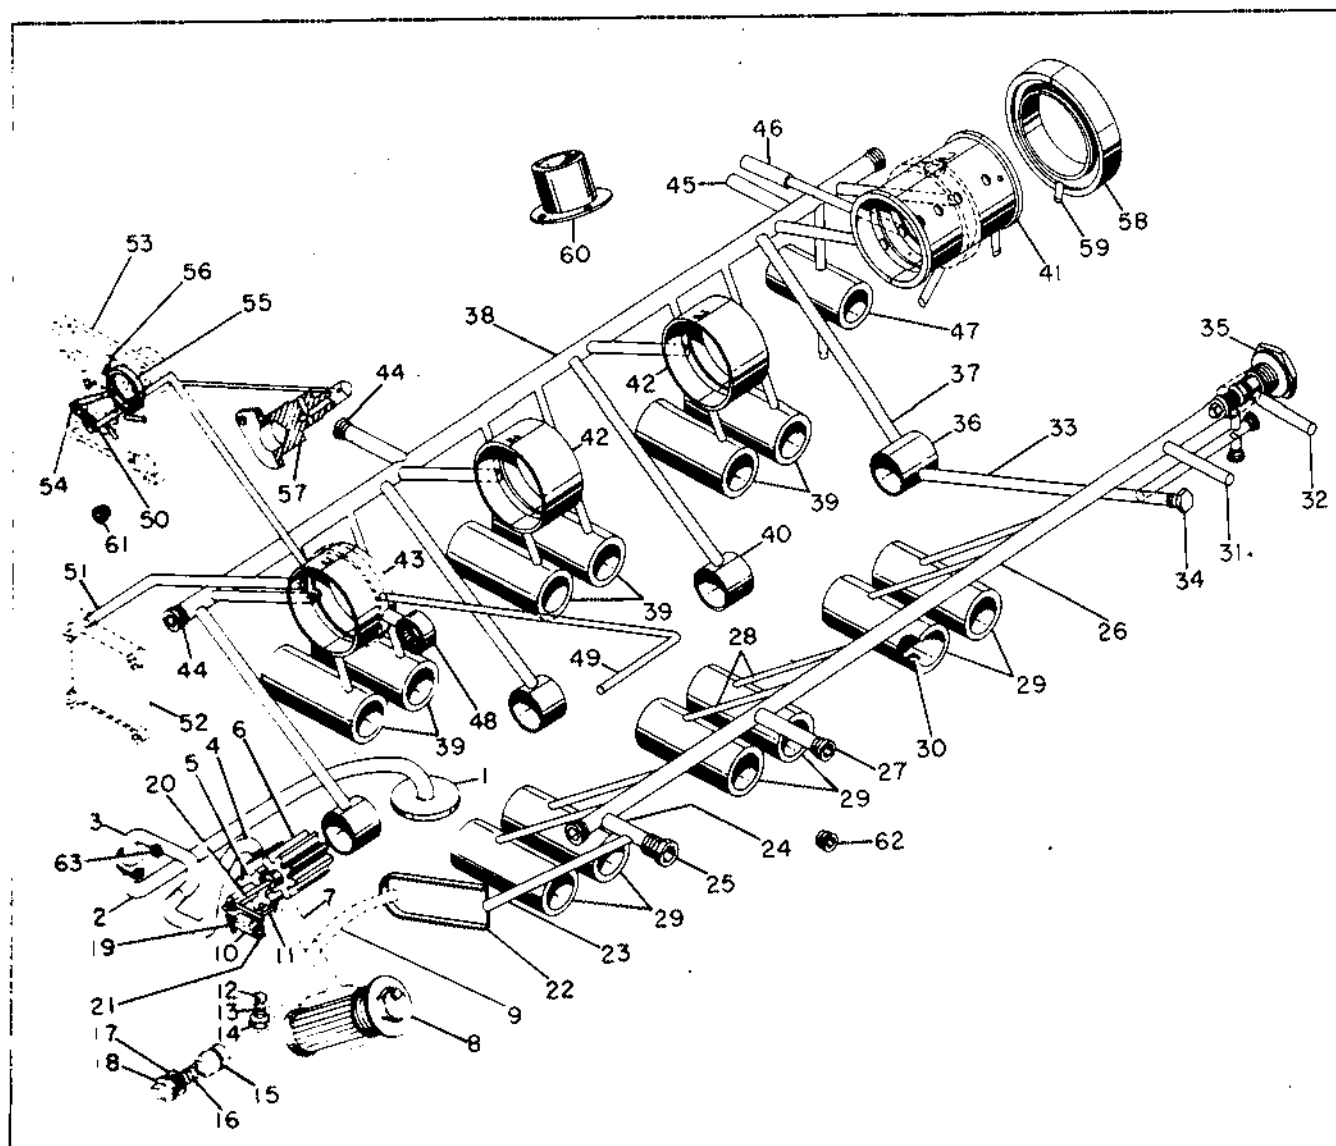

Figure 14. Lubrication System Diagram
3-11. A rubber composition oil seal (58, figure 14), held tightly between the crankcase castings in the front shaft exit, is sealed to the shaft by a helical spring inside the seal's cavity. A felt dust shield is cemented to the front of the oil seal to prevent abrasive materials working under the oil seal lip and scoring the crankshaft.
3-13. CAMSHAFT. A steel alloy forging is machined on four journals, nine cam lobes and the gear mount flange at the rear end. The lobes and journals are hardened and ground. A groove around the front journal passes engine oil from the right crankcase cross passage to the left case passage. (See 33, 36 and 37, figure 14.) The camshaft gear is attached by four unequally spaced bolts to locate its timing mark in relation to the lobes. On O-470-M engine, a cluster gear is bolted with the camshaft gear and drives the fuel pump gear.
3-22. LUBRICATION SYSTEM. (See figure 14.) The intake end (1) of the oil pump suction tube (2) is supported below the crankcase and below the level of oil in the sump when this level is at or above the "L" mark on the gauge. (Refer to paragraph 2-1.) The bottom side of the intake is covered by a perforated plate to exclude large solid particles. Atmospheric pressure on the surface of oil in the sump forces the
Legend for Figure 14.
is forced through the hollow pushrods to be drilled rockers and to grooves around their side-drilled bearings. Each intake valve rocker also passes part of its oil supply to a squirt nozzle aimed toward the exhaust valve stem. Spray from these nozzles and from bearing ends lubricates the valve stems and springs. Oil is returned to the crankcase through the tubular pushrod housings which are sealed to the cylinder heads by Silastic rubber rings and to the crankcase by Silastic rubber flanged washers. Heavy springs hold the crankcase seal inward in the case recesses and the housing and cylinder seals outward in the cylinder head recesses. Drain holes (30, figure 14) in the tappet guides permit the returning oil to fall into the sump.